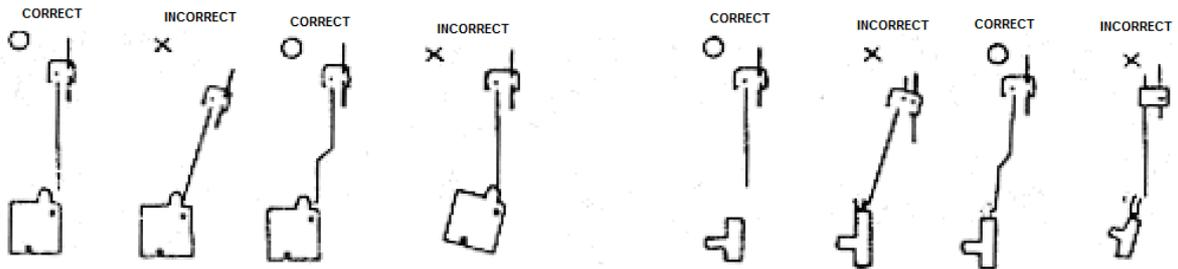

Figure 2. Actuator and door lock levers position
2. Install actuator in correct direction as shown in figures 1-a, 1-b and figure 2. Make sure that actuator will not block other moving parts inside of door (screen and its mechanism). Also make sure that actuator is moving parallel to door lock bolt.
1. Make sure that actuator is moving parallel to door lock bolt. See figure 2. Otherwise closing/opening movement will be incorrect and/or actuator lifetime will be shortened.